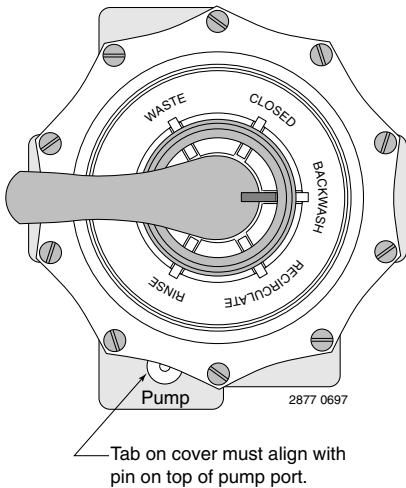

Figure 1 – Cover alignment
4. Align cover pin (see Figure 1) and install new cover and plug. Press down on cover to allow bolts to engage nuts; tighten each bolt securely.
9. Make sure tab on valve cover aligns with pin on top of pump port (see Figure 1). Press down on cover to allow bolts to engage nuts. Tighten each bolt securely.
8. Align cover pin (see Figure 1) and install cover. Press down on cover to allow bolts to engage nuts; tighten each bolt securely.
5. Align cover pin (see Figure 1) and install cover. Press down on cover to allow bolts to engage nuts; tighten each bolt securely.